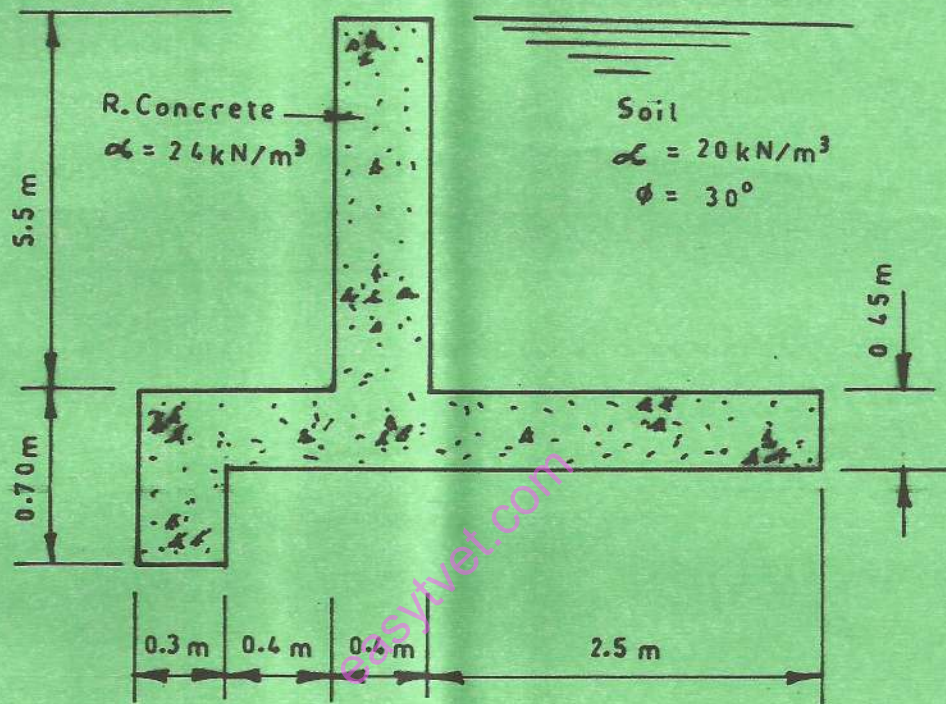

Fig. 2
2. **Figure 2** shows a reinforced cantilever retaining wall backfilled with granular materials having unit weight of 20 kN/m^3 and an internal angle of friction ϕ of 30° . Given that the allowable ground bearing pressure as 150 kN/m^2 , the coefficient of friction is 0.45 and unit weight of reinforced concrete is 24 kN/m^3 , determine: